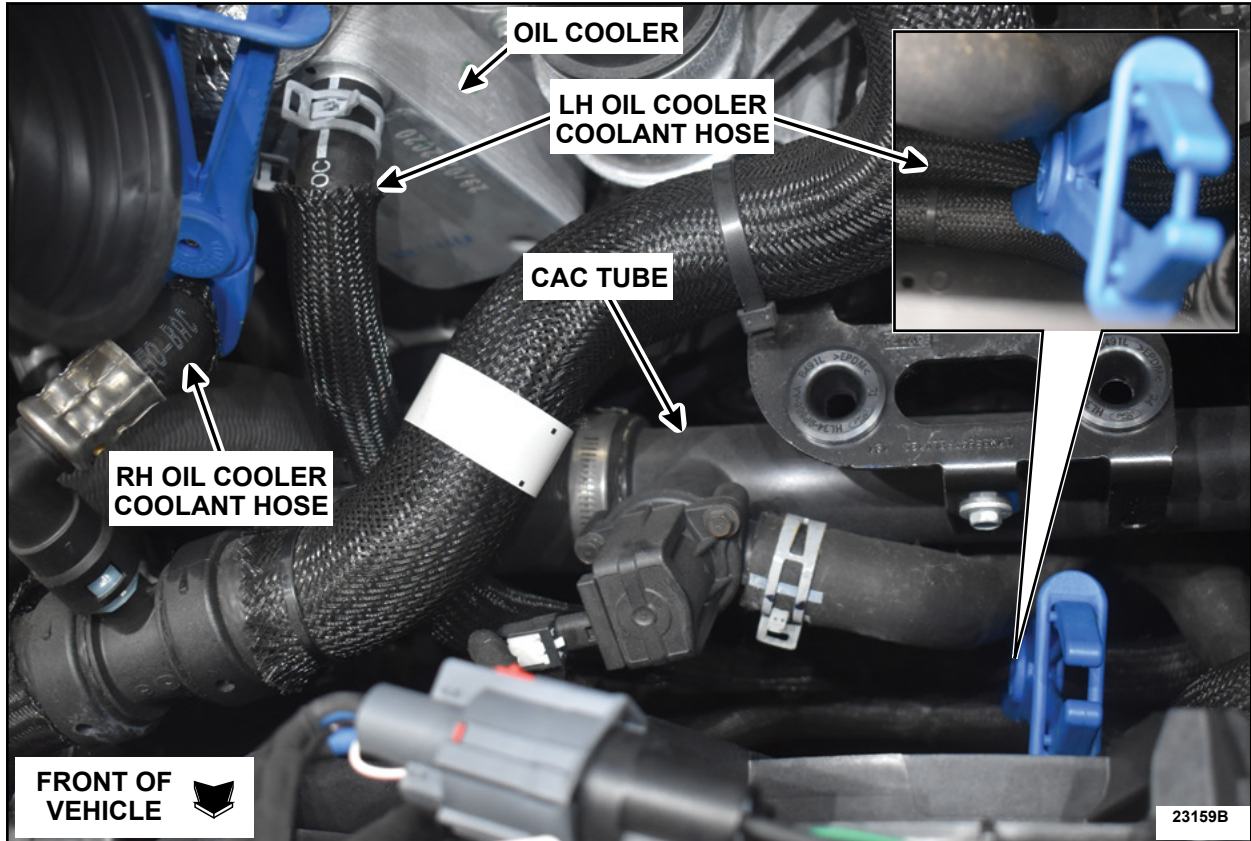

FIGURE 2
4. Install hose locking pliers on the oil cooler coolant hoses. See Figure 2.